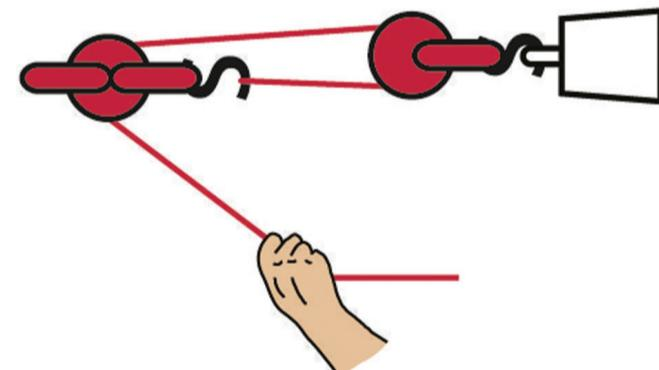

Figure 5: If you connect two pulleys to a piece of rope like this, you get a mechanical advantage.
Look at Figure 5. A person uses two pulleys to lift a weight. One pulley wheel is connected to the ceiling. The second pulley wheel hangs on a loop of rope. The two pulleys and the way the rope is wrapped around both pulleys, forms a **pulley system**. The pulley system makes it easier to lift a load. Here is how it works:
- Two pulleys connected to a single piece of rope, as shown in Figure 5, give a mechanical advantage.